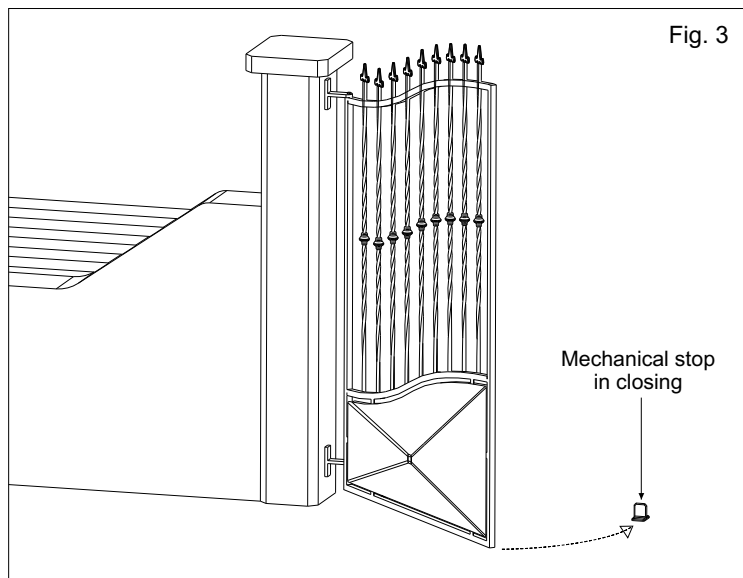

Fig. 3
- E.** in case of leaf length superior of 1,8 m and 150 Kg of weight, it is recommended to fix to the ground a mechanical stop in closing (Fig. 3).